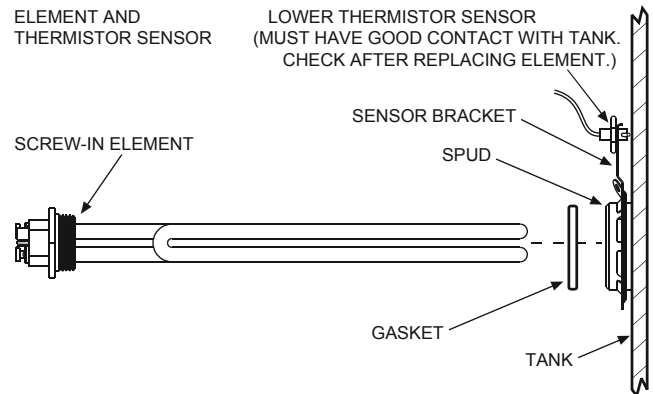

FIGURE 19
6. Make sure the replacement element has the correct voltage and wattage rating. Lubricate the new gasket with a few drops of dishwashing soap, position the new gasket on the element and insert it into the water heater tank (Figure 19). Tighten the element by turning it clockwise until secure.